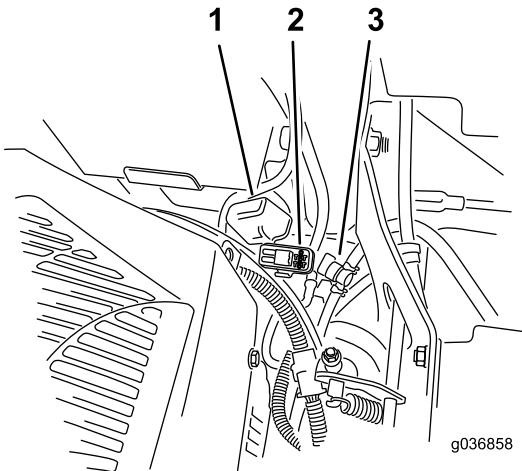

Figure 60
**Note:** For MyRide machines, ensure that the ground cable does not rub against the trailing arm or lower shock mount (Figure 60).
The fuses are located on the right console next to the seat (Figure 60).
2. Install a new fuse (Figure 60).